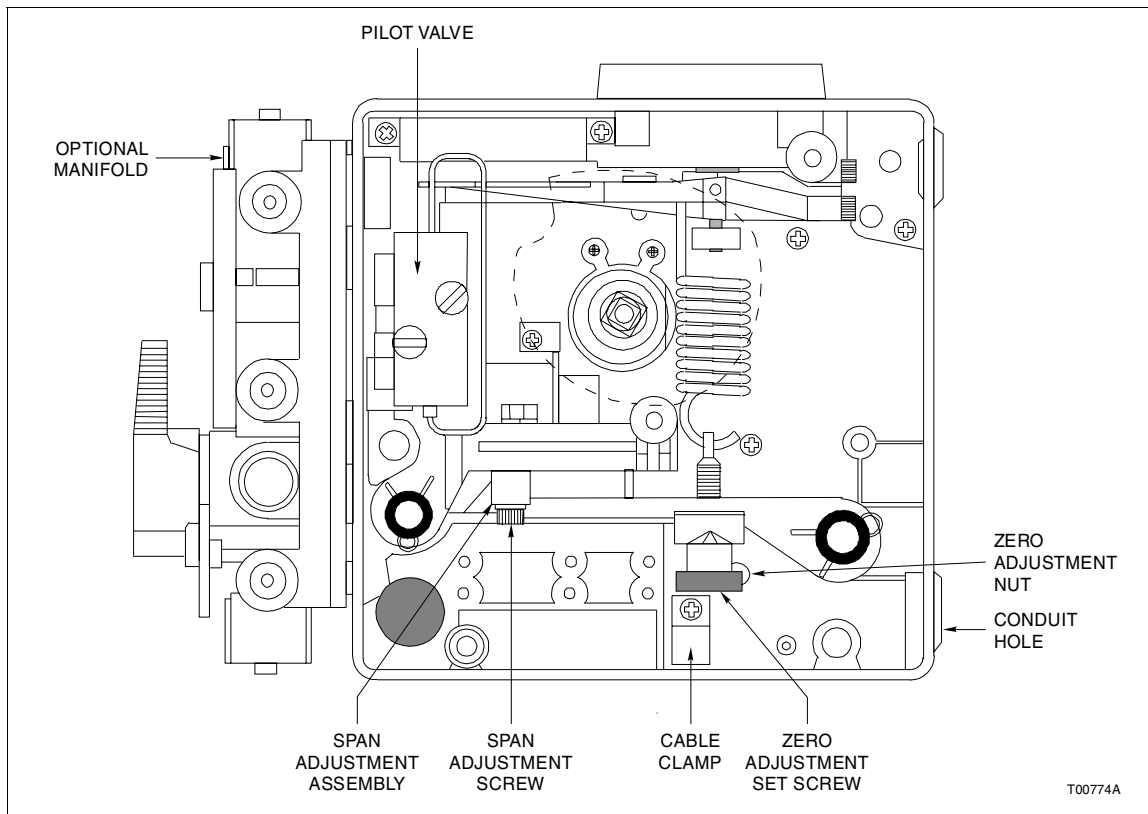

Figure 4-1. Calibration Adjustments
2. To adjust the zero, loosen the zero adjustment set screw (Fig. 4-1) with the $\frac{3}{32}$ -inch Allen wrench.
2. To adjust the span, loosen the span adjustment screw (Fig. 4-1) using a 3/32-inch Allen wrench.
3. Slide the span adjustment assembly (Fig. 4-1) in the appropriate direction until the actuator moves to align the 100% radial line with the center of the cam roller (toward pilot valve increases span of actuator).